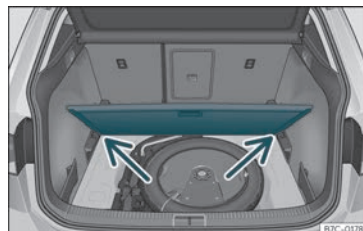

Fig. 109 Variable luggage compartment floor: inclined position.
- Rest the floor on its housings »» Fig. 109 (arrows).